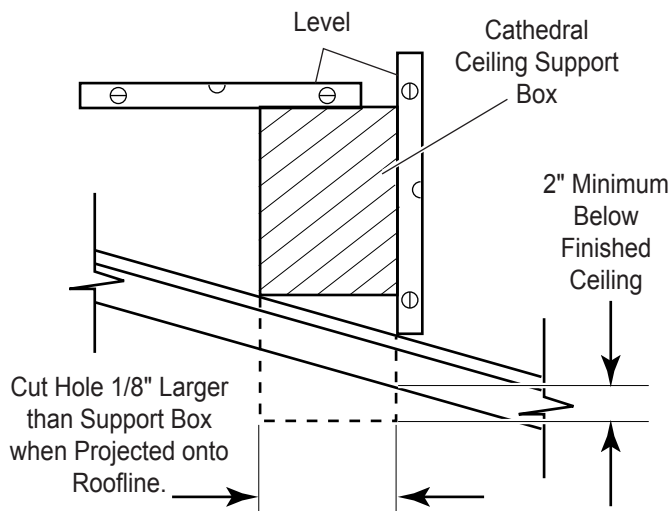

Figure 30 - Cathedral Ceiling Support Box Installation
2. Cut the hole $\frac{1}{8}$ " larger than the support box outline. See Figure 30.
3. Lower the support box through the hole in the roof until the bottom of the box extends at least 2" (51 mm) below the ceiling. See Figure 30. Align the support box vertically and horizontally using a level. Temporarily tack the support box in place through the inside walls and into the roof sheathing.